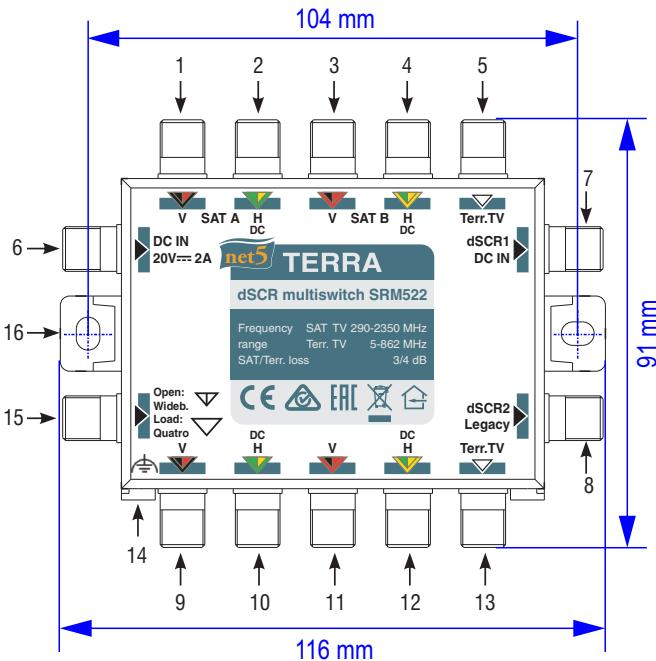

Figure 1. External view of the multiswitch
1. Multiswitch is powered from local PSU (20 V) via DC input (see Figure 1, pos. 6) and pass DC to H trunk lines. (Recommended for use is PS202F 20V PSU).	Recommended as first choice. WARNING: Don't overload PSU via H trunk lines – check total system power consumption of multiswitch and from H trunk lines (including all other equipment connected). Check all other system equipment connected to H lines if it can accept 20V. SERIOUS DAMAGE OF IT CAN OCCUR! Note: All trunk lines have DC bypassing.
3. Multiswitch is powered from dSCR1/DC IN or dSCR2/Legacy outputs (subscriber) (see Figure 1, pos. 7, 8). Multiswitch and equipment connected to H trunk lines powered directly from STB's.	WARNING: MULTISWITCH WILL DRAW CURRENT AND POWER FROM OUTPUT WITH HIGEST VOLTAGE! STB's connected to tap outputs must ensure supply sufficient power for multiswitch and all equipment connected to H trunk lines. If not see below.
4. Multiswitch is powered from dSCR1/DC IN output via dSCR power inserter (see Figure 1, pos. 7). (Recommended for use is PI012).	This mode is similar to 1 mode. Multiswitch and equipment connected to H trunk lines powered via dSCR power inserter with 22 kHz bypass connected to any dSCR output. Use dSCR1 output if Legacy STB is connected to dSCR2/ Legacy output. WARNING: Don't exceed the current capability of power inserter and dSCR outputs (800 mA max.). SERIOUS DAMAGE CAN OCCUR IF OVERLOADED!